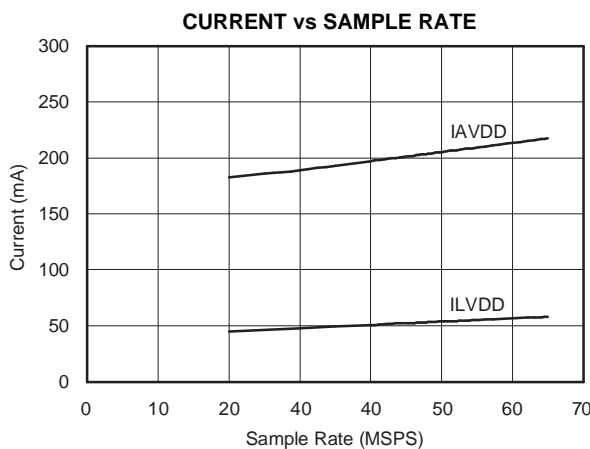

Figure 29.
- Deleted *Supply* from title of Figure 29. **18**